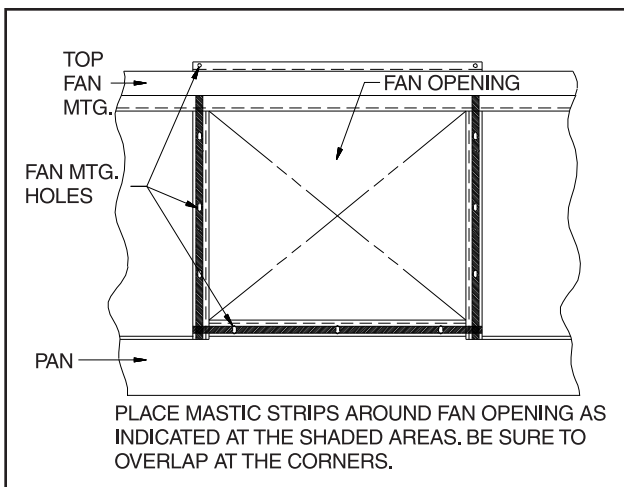

Figure 4a - Mastic Placement For Blower Mounting
2. Take mastic from parts box and place on coil section unit body as shown in Figure 4a.